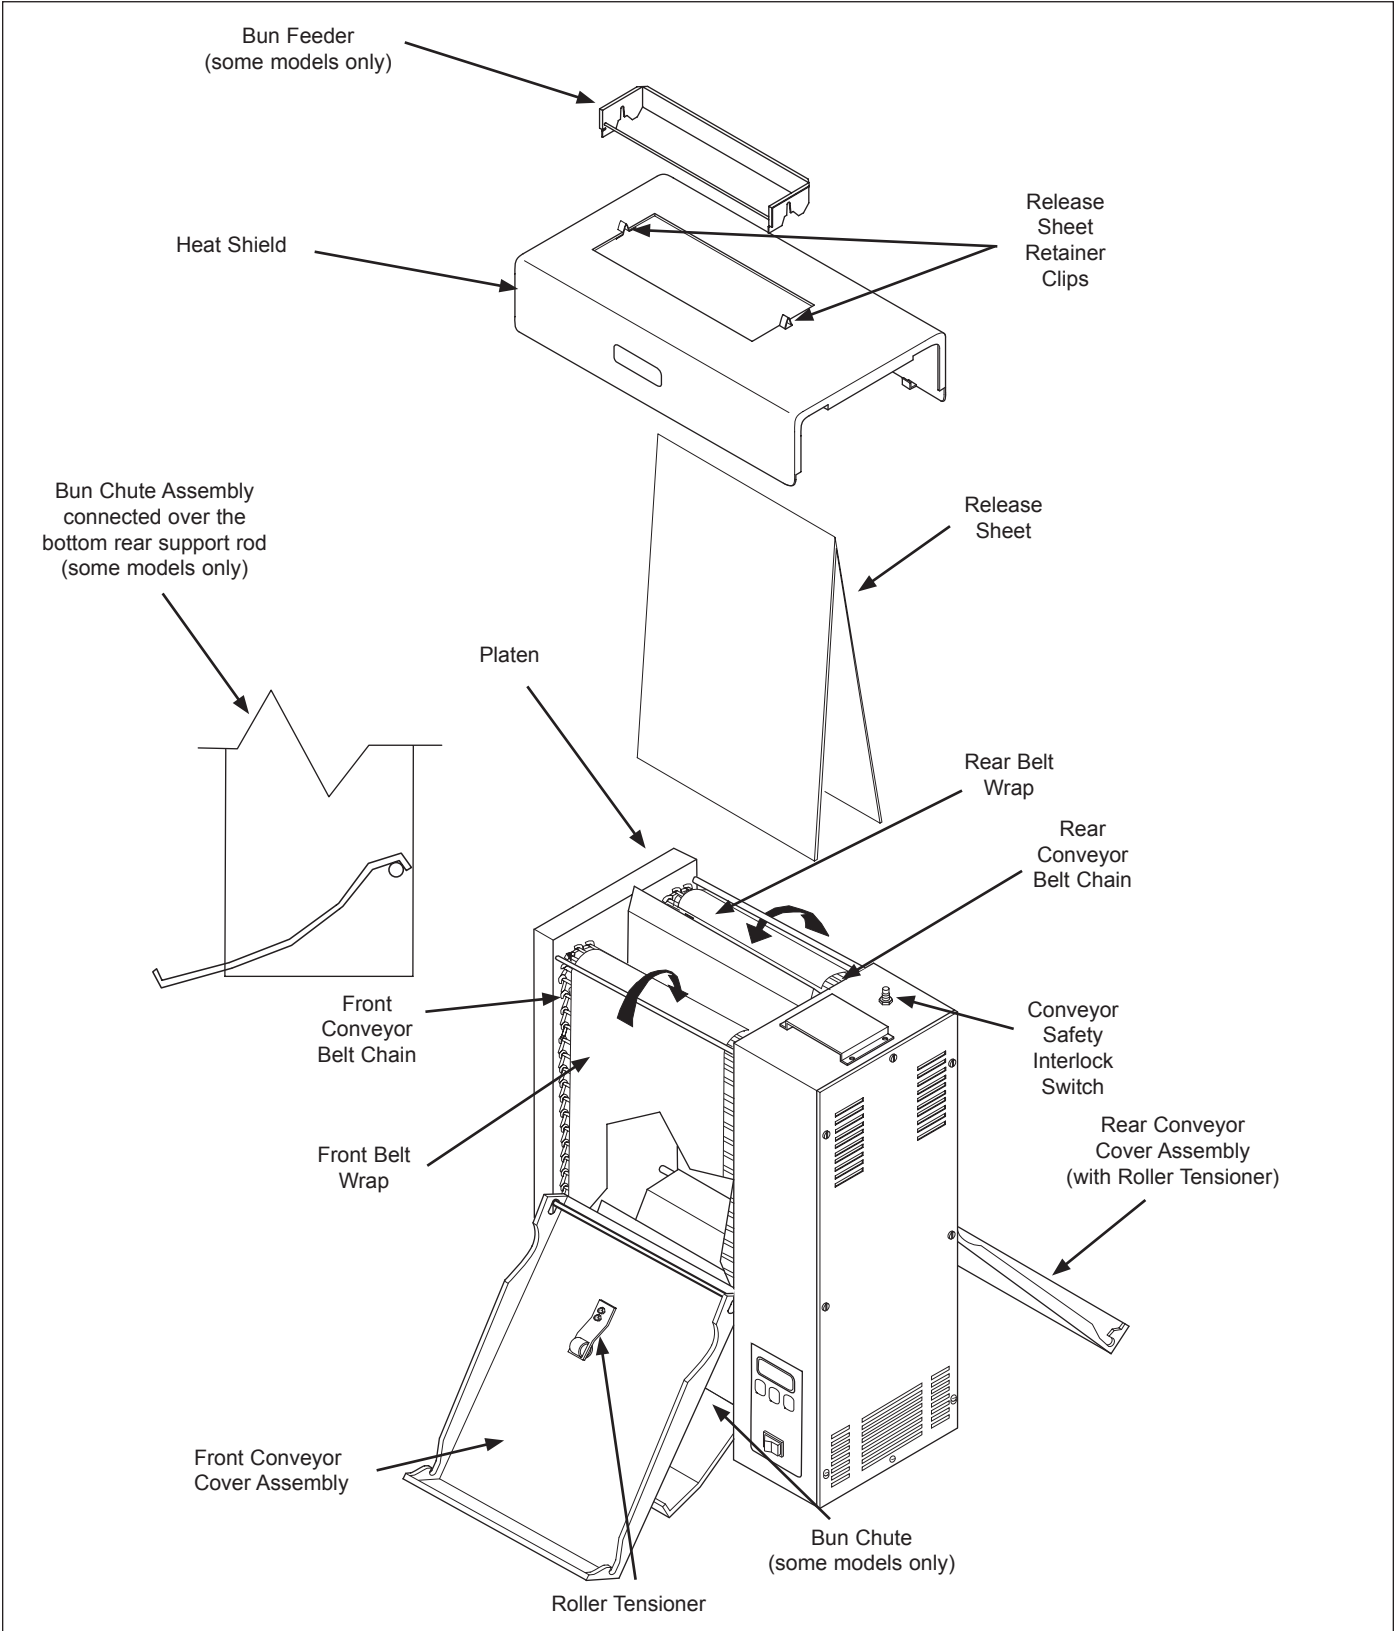
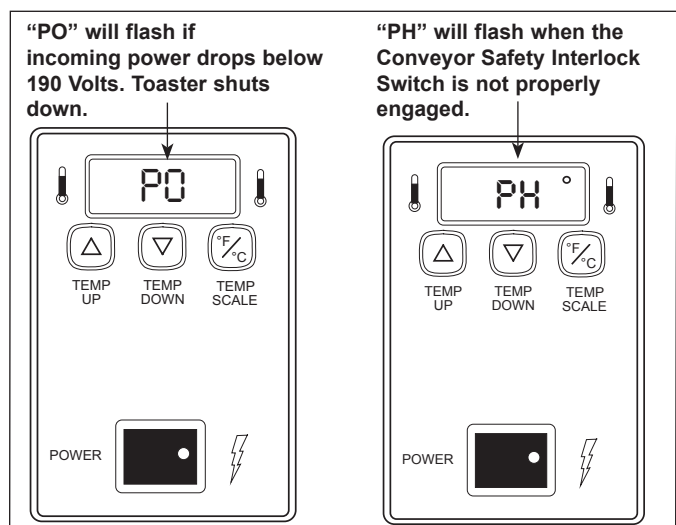

Figure 1. VCT-2000 Toaster
Figure 9. “PO” and “PH” Fault Messages
- Bun Chute (Figure 1) some models only.
- Bun Feeder (Figure 1) some models only.
- Two Release Sheets (Figure 1).
NOTE: The factory has pre-installed a Release Sheet over the Platen (Figure 1). Verify that it is properly in place before proceeding.
1. Remove Bun Chute (some models) and Bun Feeder from the box and install (Figure 1).
IMPORTANT: Make sure heat shield assembly is activating the Conveyor Safety Interlock Switch (see Figure 1). The conveyors will not rotate unless the Heat Shield is in place and Conveyor Safety Interlock Switch is activated.
- If incoming power drops below 175 Volts, the heating circuits are disabled and the display will read “PO” (Figure 9). To reset, the voltage must be over 190 Volts, then the unit must be turned off and back on. If this condition repeats, contact your Authorized Service Agency.
- The “PH” fault message (Figure 9) is displayed if the Conveyor Interlock Safety Switch (Figure 1) is not properly engaged. When a PH fault exists, reposition the Heat Shield so that it fully engages the Conveyor Safety Interlock Switch. The unit should return to normal operation when the Heat Shield is positioned correctly.